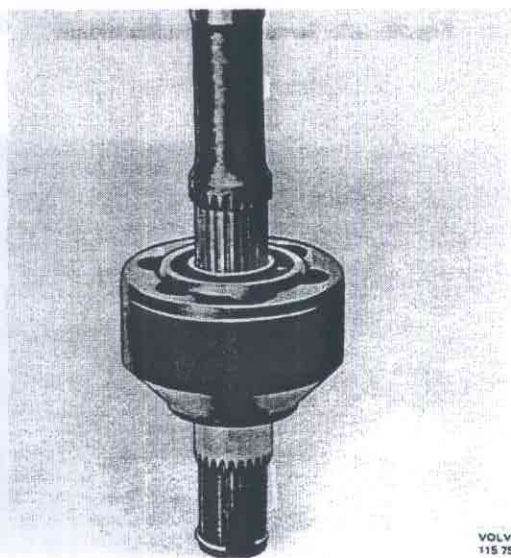

Fig. 46-85. Driving in the drive shaft
5. Place the shaft pin on a flat surface, Fig. 46-85, and the drive shaft in the flange. Knock on the rear end of the drive shaft so that it glides into the flange.